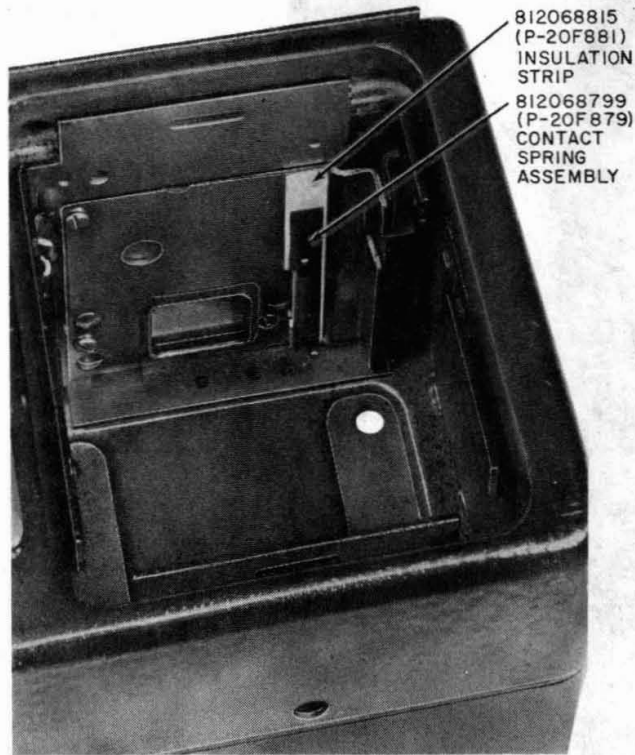

Fig. 7—Installation of Insulation Strip and Contact Spring Assembly
- (4) Using the 1/4-inch drill described in paragraph 3.01, drill the hole through the housing.
- (5) Remove the screw and drilling template.
- (6) Using the 1/4-inch drill, enlarge the hole where the screw was removed.
- (7) Using a suitable file, remove all burrs from the 1B rail.
- (8) Remove the C-clamp.
- (9) Remove all drill chips from the telephone set.
- (10) Position the insulation strip against the 1B rail with the boss on the strip in the 1/4-inch mounting screw hole (Fig. 7). Hold the contact springs in place with the stud extending through the hole drilled in the base, and fasten the terminal board in place on the housing base with the nut and lockwasher provided (Fig. 8).
(8) Position the insulation strip against the 1B rail with the boss on the strip in the 1/4-inch mounting screw hole (Fig. 7). Hold the contact springs in place with the stud extending through